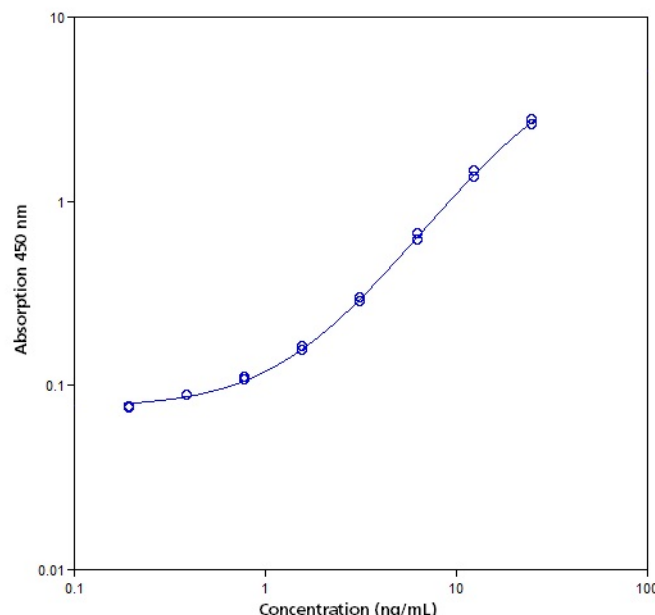

Fig. 8 Representative standard curve for human Myoglobin ELISA. Human Myoglobin was diluted in serial 2-fold steps in Sample Diluent.
- A representative standard curve is shown in Figure 8.